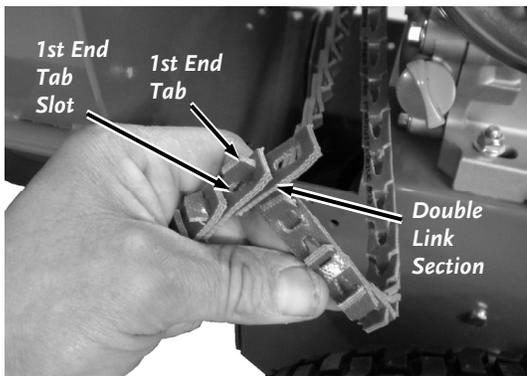

Figure 50
- a. Twist the Belt to Line up the 1st End Tab with the End Tab Slot in the Doubled Link section. Insert the Tab through the Slot (**Figure 50**).